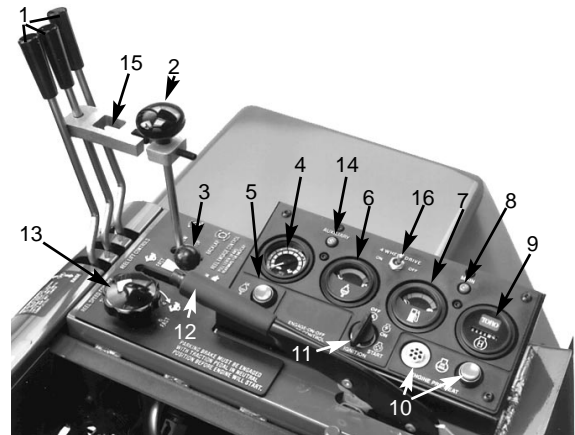

Figure 11
1. Sit on the seat, keep your foot off the traction pedal. Make sure the parking brake is engaged (Fig. 11). The traction pedal and the mow/backlap lever must be in neutral.
2. If the engine or air temperature is below 45°–50° F (7–10° C), press and hold the engine preheat switch in until indicator burns brightly (Fig. 11). Then release the switch and go to step 3 to start the engine.
3. Move the throttle to SLOW and turn the ignition key to START (Fig. 11). Release the key when the engine starts.